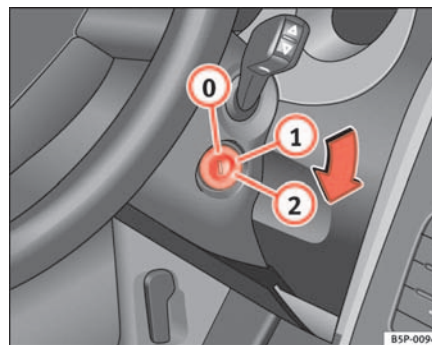

Fig. 92 Ignition key positions
In the position ⇒ fig. 92 the ignition and the engine are OFF and the steering may be locked.
- Turn the ignition key to position ⇒ page 124, fig. 92 ①. The indication lamp  will light for engine pre-heating.
- When the warning lamp goes out, turn the key to position ② to start the engine. Do not press the accelerator.
- Turn the ignition key to position ⇒ page 124, fig. 92 ①.